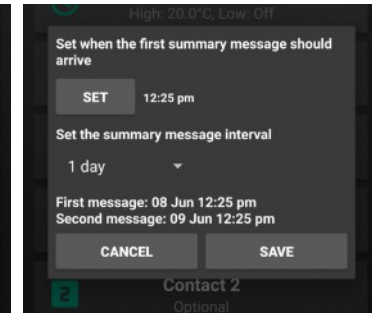

Fig. 9
- e. Summary Interval – The interval at which the ELSMS device will send you information regarding its status. (See Fig. 9).